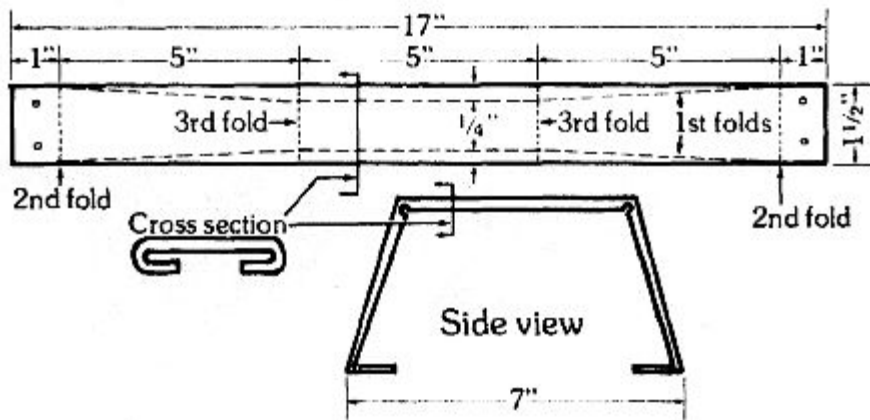
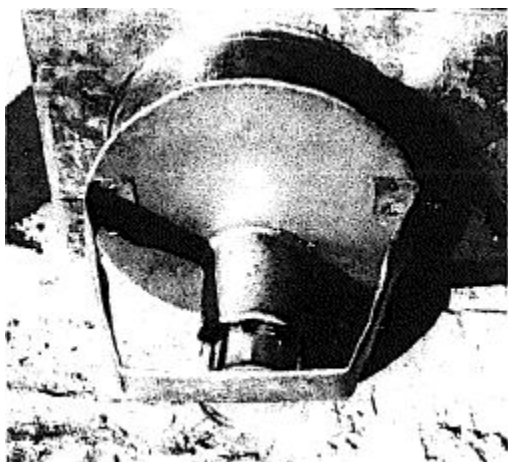

Figure 13.24 (above)-How to fold the handle.
Figure 13.25 - Stokehole cover and draft system, with handle.
18. Mount the handle. Cut and mark the handle strip according to Figure 13.24. Drill the holes at each end, then fold along the dashed lines until you have right-angle flanges tapering toward the ends. Starting at the center, pound the flanges over nearly flat - just enough so that the handle is pleasant to the touch. Then fold the handle on the dotted lines to the shape shown. Position the handle on the faceplate high enough to clear the draft system, and rivet twice at both ends through the drilled holes. File any rough edges smooth. Figure 13.25 shows the completed unit.